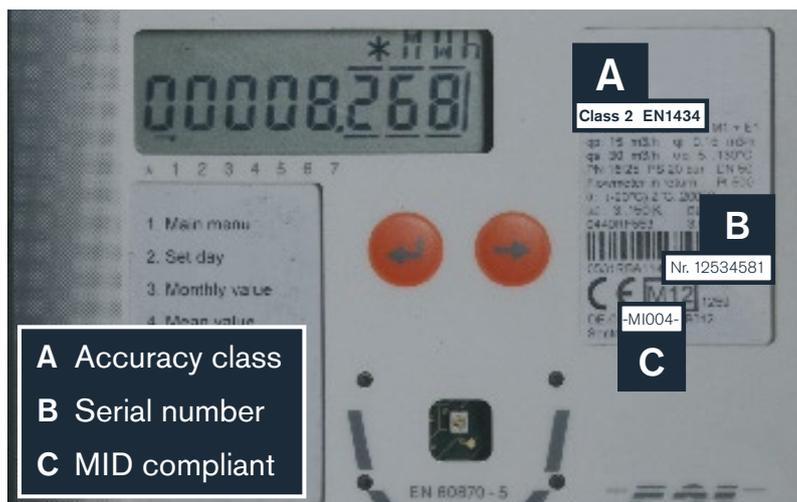

Figure 2: Meter
- Photo of meter(s), both calculator(s) and flow meter(s), clearly showing the serial number and MID/Class 2 markings (Figure 2).